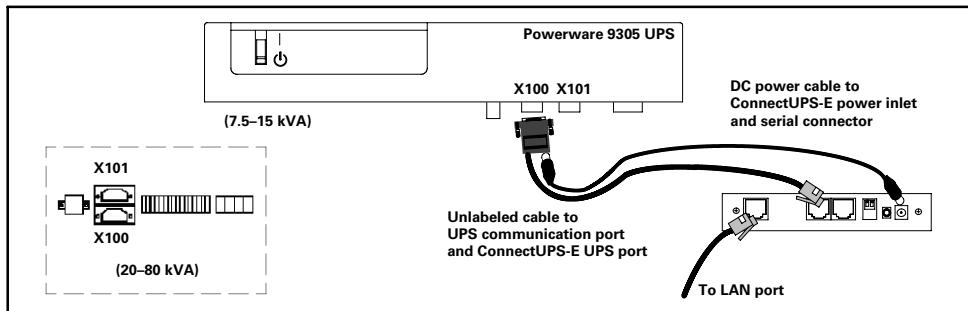

Figure 3. Installing the ConnectUPS-E with a Powerware 9305 UPS
3. If the **X100 port is available**, use the supplied, unlabeled serial cable to connect the UPS port on the ConnectUPS-E to the female, 9-pin, RS-232 port on the UPS (see Figure 3).